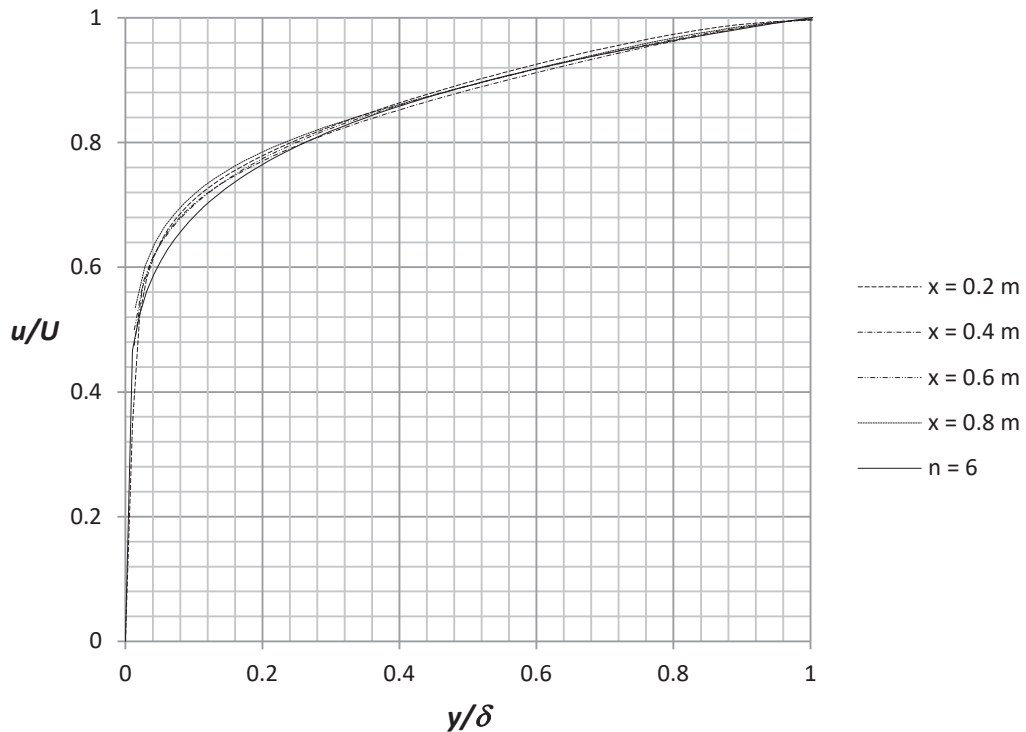

Figure 2.31 Velocity profiles compared with 1/6 power law for turbulent profile
31. Place the file “**graph 2.31**” on the desktop. Repeat step 24 and choose the sketch  $x = 0.2, 0.4, 0.6, 0.8$  m and check the box for **Velocity (X)**. Rename the xy-plot to **Comparison with One-Sixth Power Law**. An Excel file will open with Figure 2.31. In figure 2.31 we compare the results from Flow Simulation with the turbulent profile for  $n = 6$ . The power-law turbulent profiles suggested by Prandtl are given by